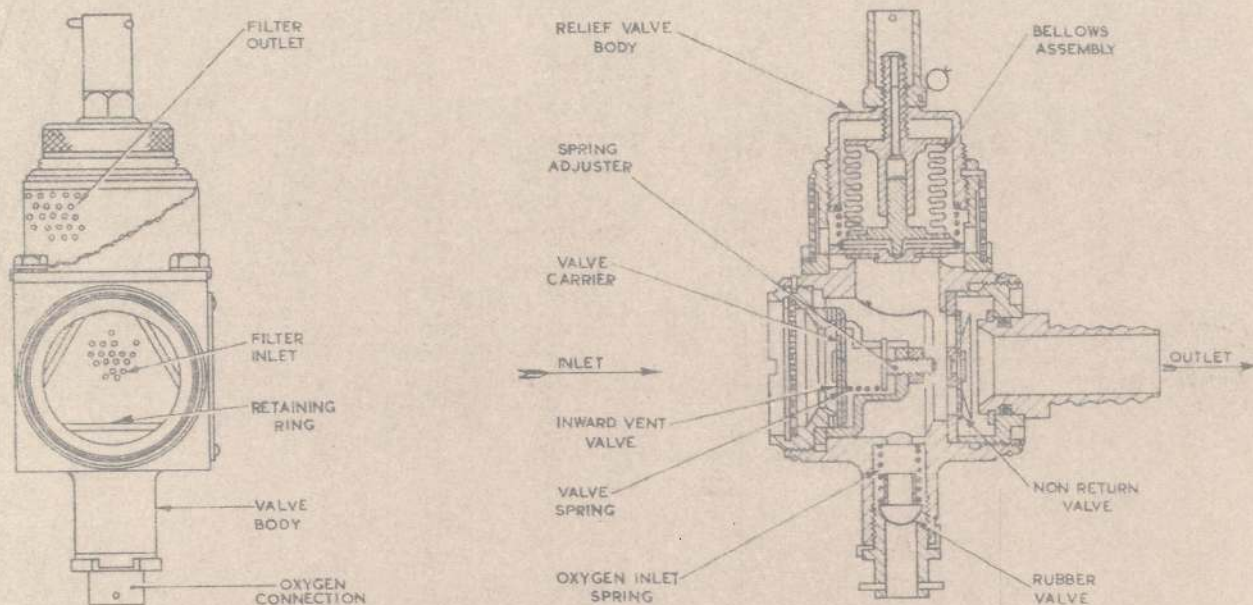

Fig. 1. Details of valve, Type RV51/2
4. The valve (*fig. 1*) consists of four components within a light alloy casting as follows :—